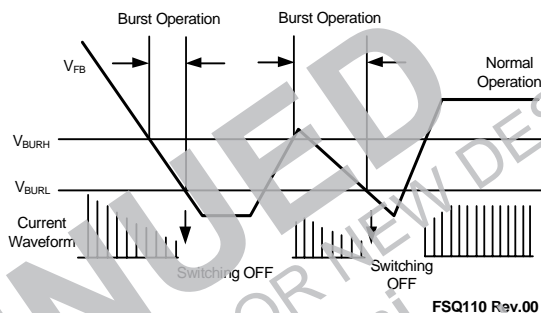

Figure 17. Burst Operation Function
6. Burst Operation: To minimize power dissipation in standby mode, the FPS enters burst-mode operation. Feedback voltage decreases as the load decreases, as shown in Figure 17, and the device automatically enters